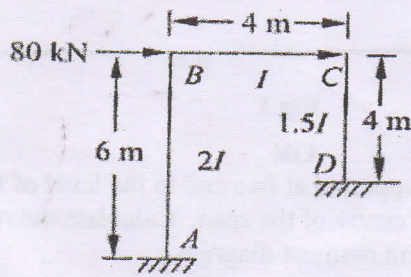

Fig.6
- VIII. Analyse the rigid frame shown in fig. 6 by moment distribution method.